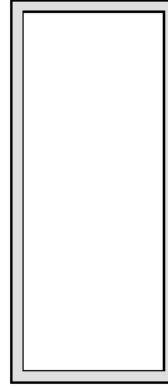

Figure 21. Solder Paste Application on Pins
- 4. The aperture opening for the signal pads should be between 50–80% of the QFN pad area as shown in Figure 21.